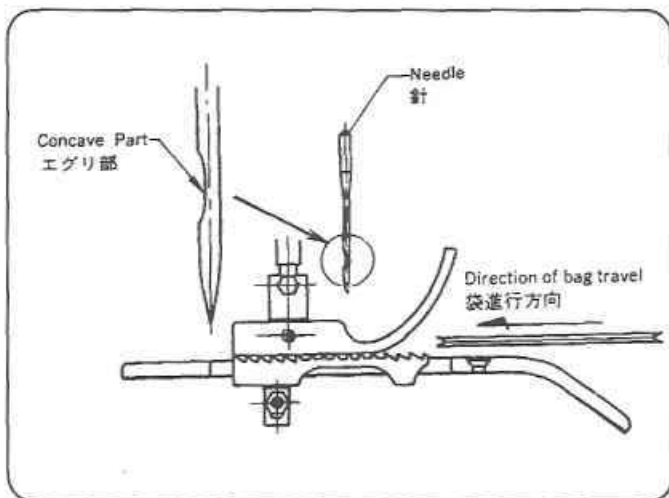

Fig.14-a
- The shaved part of the needle must face the leading direction of the machine (Fig.14-a).